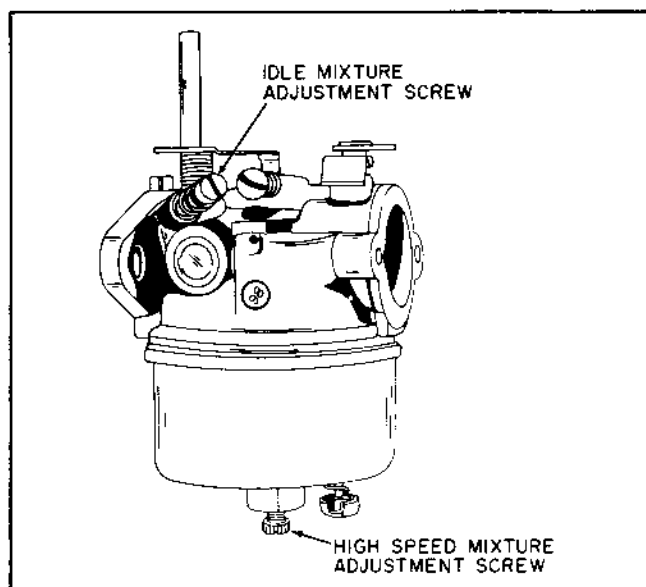

Figure 3-14
- (5) A Welch plug on the side of the carburetor body, just above the Idle Adjusting Screw seals the Idle Fuel Chamber. (Fig. 3-14). This Welch plug may be removed for thorough cleaning of the idle fuel mixture passage and the Primary and Secondary Idle Fuel discharge ports. Clean with solvent and compressed air. DO NOT use any tools that may change the size of the discharge ports.